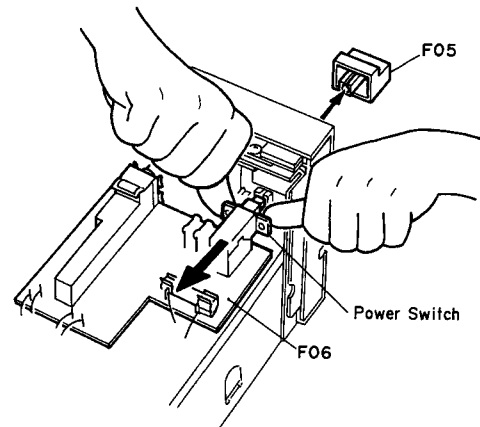

Fig. 2.3.2
- (1) Remove the Top Cover Ass'y referring to item 2.1.
- (2) Pull out a knob F01, loosen a nut F02, and remove a washer F03.
- (3) Loosen screws F04 (2 pcs.) and remove a button F05. To remove F05, push the Power Switch rearward as shown in Fig. 2.3.2.
- (4) Remove F06 (Power Switch P.C.B. Ass'y).